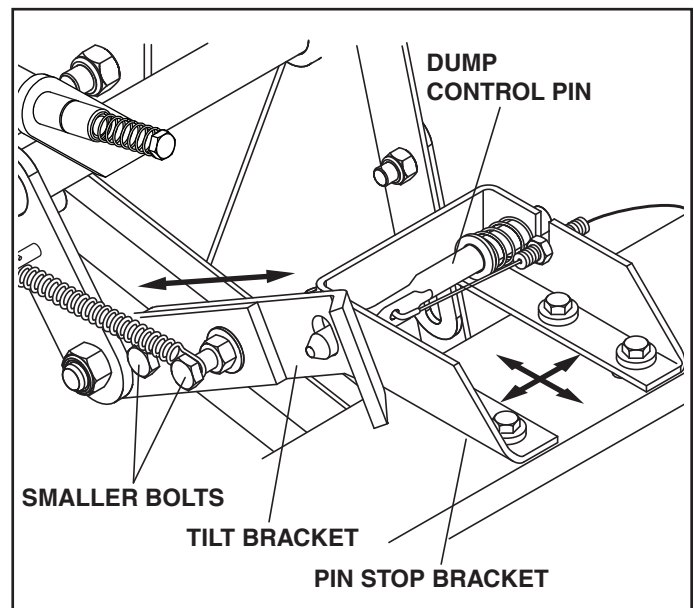

FIGURE 25
STEP 26: ADJUST TILT AND PIN STOP BRACKETS (SEE FIGURE 25)